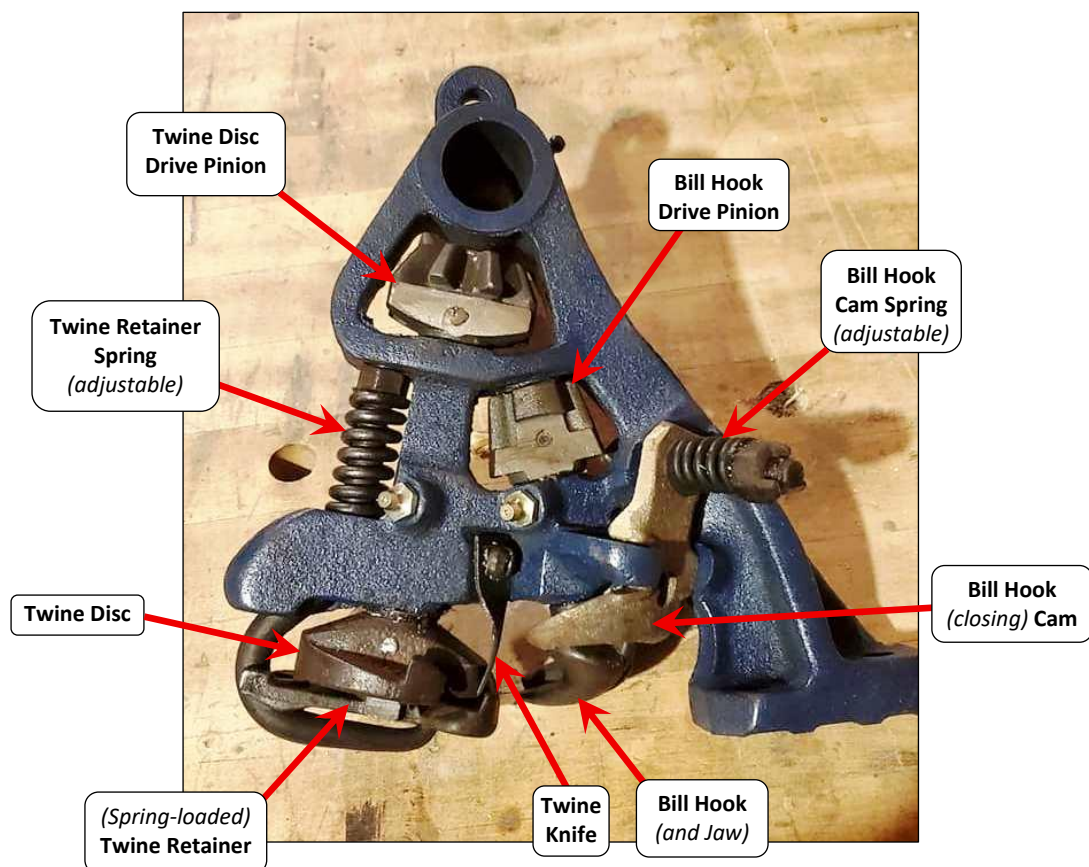

Fig.5.11 McCormick binder knotter – Viewed from side which fits against the Cam Gear
- **Twine Retainer:** A part-circular, thick disc with a raised rim extending around approx. ¾ of its outer edge (*Fig.5.12*). Pressed up against the underside of the Twine Disc by a cranked rod & (*adjustable*) coil spring (*Fig.5.11*)
The flat faces on the Twine Disc and Bill Hook drive pinions (*Fig.5.11*) should be a snug fit against the flat (*side rim*) surfaces of the Cam Gear, **BUT there should be some slight clearance** to prevent the surfaces binding (*see Fig.4.19*).